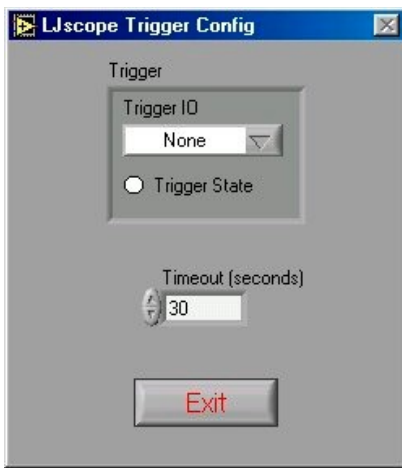

Figure 3.5-2. Configure Trigger
- **Configure Trigger:** Brings up the window shown in Figure 3.5-2. Choose the IO line to trigger on and whether to trigger when it is high or low. Also set the timeout period so the application will continue (with an error) if the trigger is not detected.